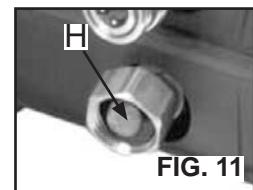

FIG. 11
1. Remove filter by grasping end and removing it from water inlet of pump as shown. (Fig. 11)